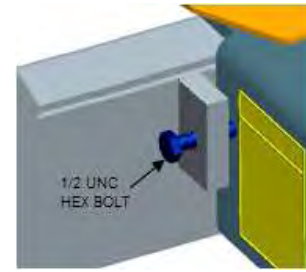

**Figure 18**
- Insert 1/2”-13 HHCS x 1-1/2” long bolts, 1/2” washers and 1/2” lock washers thru slots in the front end plates, into cross-member tube (see Fig.18).
- Check all lift dimensions, and make adjustments if necessary. Tighten bolts mounting the decks to front and rear cross-members (see **Fig.18** and **Fig.28**).